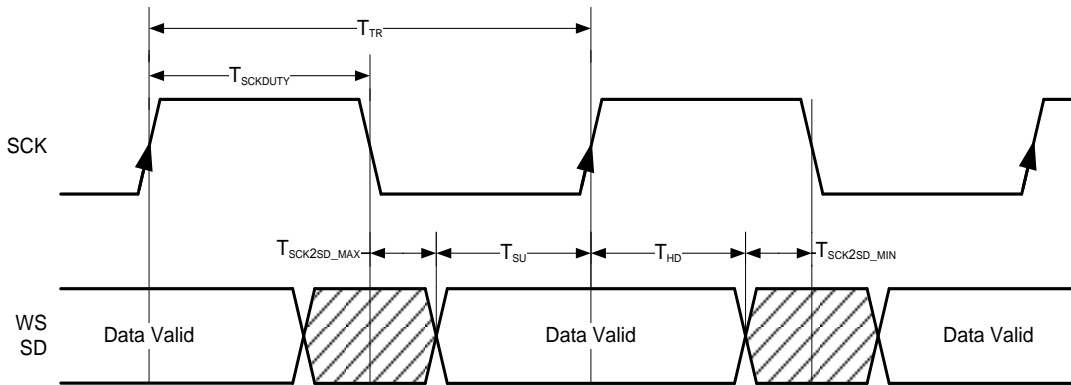

Figure 13. I²S Output Timings
- See Figure 13 on page 28. Meets timings in Philips I²S Specification.